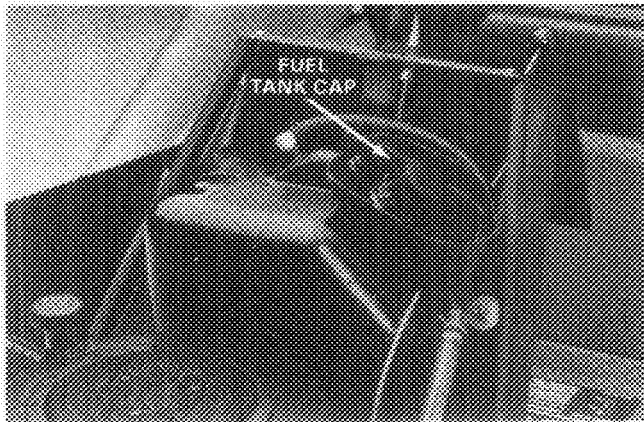

Figure 8
3. Remove cap from fuel tank (Fig. 8) and fill tank w/lead-free or leaded regular gasoline. Then install fuel tank cap.